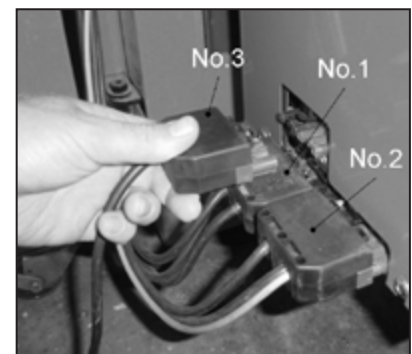

Figure 10-8: Pellet feed auger plug (3)
- Disconnect the 6-way plug (No.3), from the pellet feed auger, from the upper socket on the left side of the burner. Refer to Figure 10-8.
- Disconnect the 7-way plug (No.1) from the socket on the left side of the burner. Refer to Figure 10-8.
- Finally, re-fit both the 6-way and then 7-way plugs to their corresponding sockets on the left side of the burner. Ensure that both plugs are fully pushed home until the small catch clicks into place. Refer to Figure 10-8.